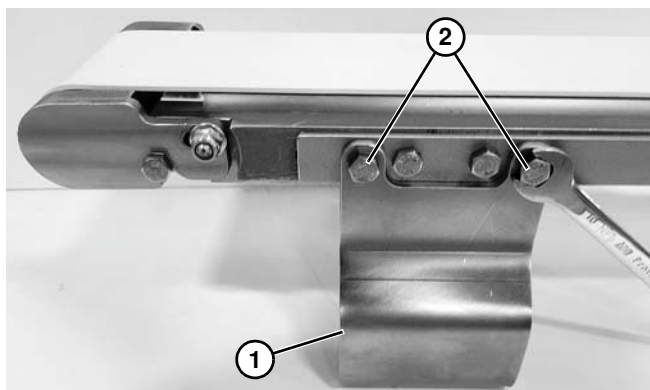

Figure 15
3. Idler End: Install table top mounting bracket (**Figure 15, item 1**) with two screws (**Figure 15, item 2**) on each side.